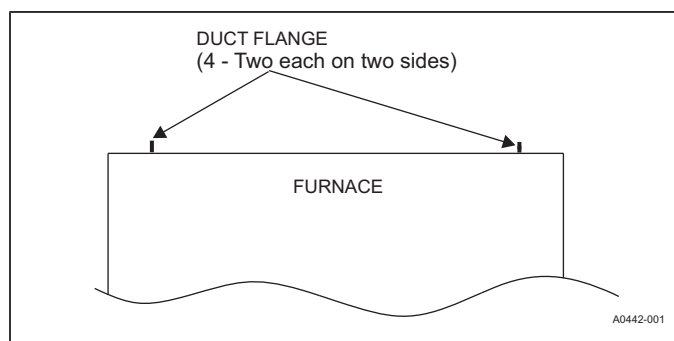

FIGURE 9: Duct Flanges
1. Fold all 4 duct flanges on the furnace to the upward position as shown in Figure 9.